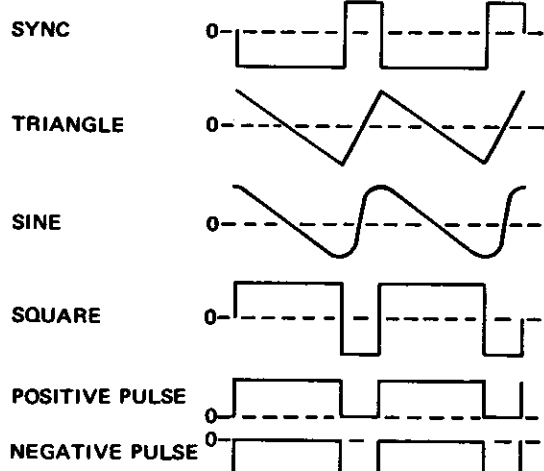

Figure 2-3 - Waveform Phasing and Symmetry Control
- 18. **Sync Out** — This rear panel output provides a square or rectangular output at the same frequency of the main generator. The output amplitude is approximately 2 V p-p into 50 Ω . The phase relationship between the sync output and the waveforms from the 50 Ω output is as shown in Figure 2-3.
- 9. Set SYMMETRY switch/control for desired symmetry or dissymmetry. The symmetry control can be used to develop ramp waveforms with variable rise fall ratios and pulse trains with variable duty cycle. By using the sine wave with dissymmetry, controllable sine distortion can be developed. Figure 2-3 shows the effect of this control on output waveforms.